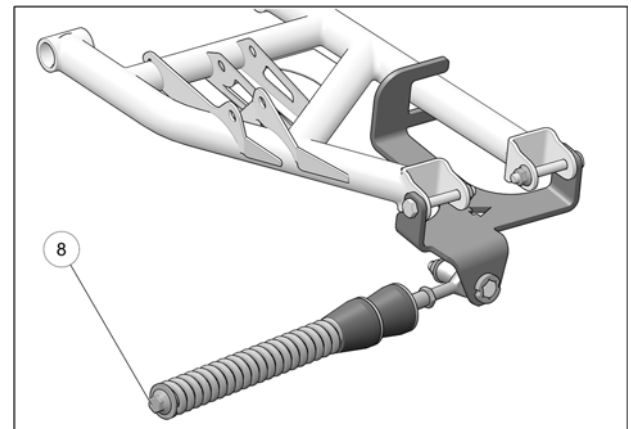

Fig. 9
- Verify that spring assembly bolt (8) is tightened to the recommended torque specification: 75 N•m [55 lb•ft]. Refer to Fig. 9